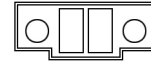

Fig. 16. Terminal block for connection to the inverter shut-down auxiliary contact of the manual bypass board.
- The SLC TWIN has a signal block through which it is possible to activate the shut down command for the UPS's inverter when closing the circuit. This normally open contact is intended for connection to an external manual bypass switch or disconnector. (see Fig. 16).